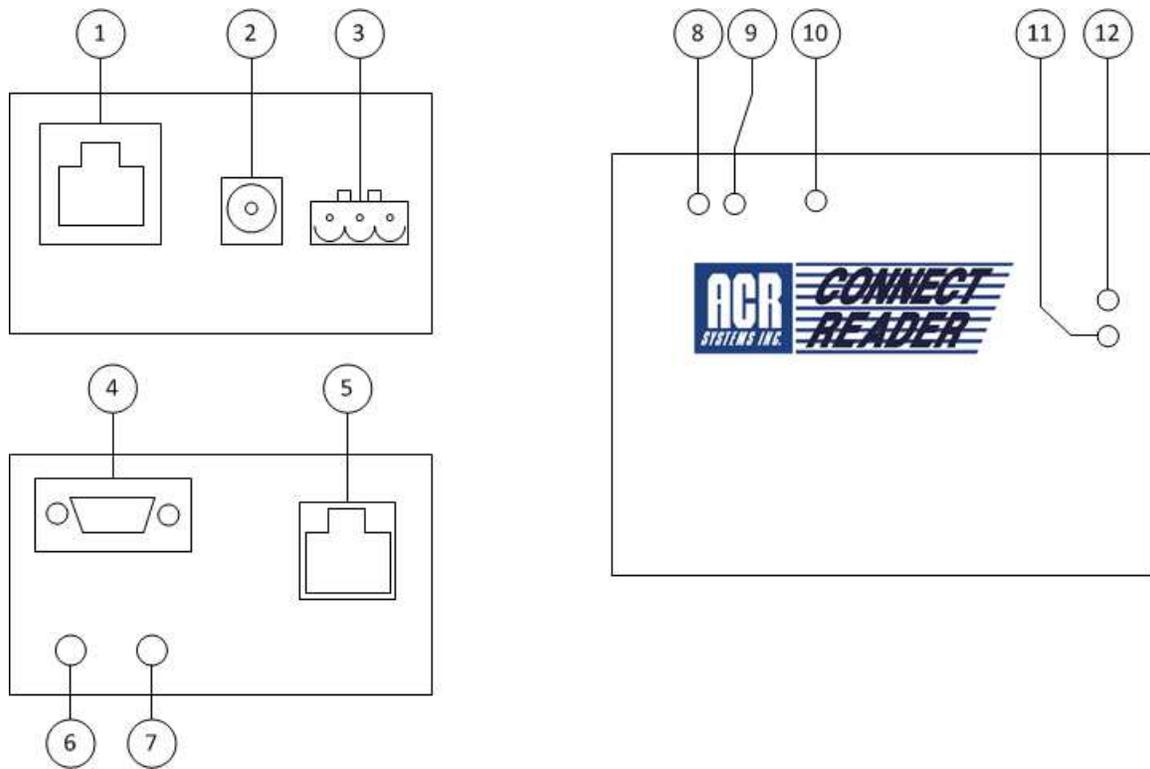

Figure 1 ConnectReader Housing
An SRP or SRP network may be plugged into either of the stereo jacks (items 6,7 of Figure 1).
Option 1: an IC-102 cable (USB to stereo) plugged into item 6 of Figure 1.
Option 2: a DE-9 cable from the computer to into item 4 of Figure 1.